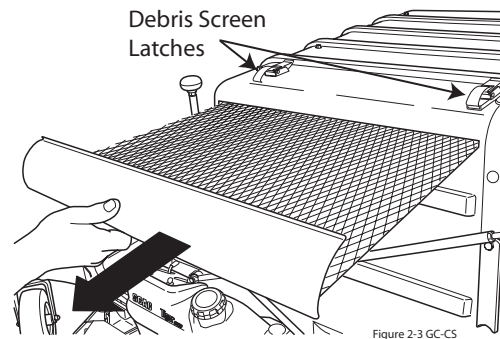

FIGURE 2-3
- Unhook the debris screen latches and remove the debris screen from the hopper. See Figure 2-3.